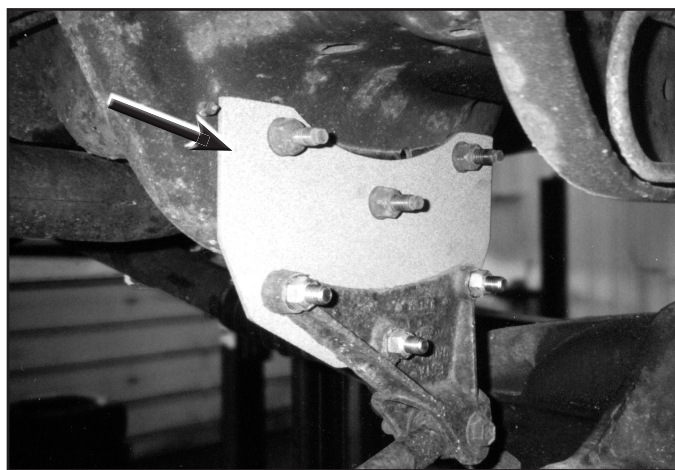

Fig 2
3. Install the track bar relocation bracket to the frame using the original track bar bracket mounting holes with three 1/2" x 2" bolts and nuts. Attach the OE track bar bracket to the relocation bracket with the OE hardware (Fig. 2). Torque to 75 ft-lbs.